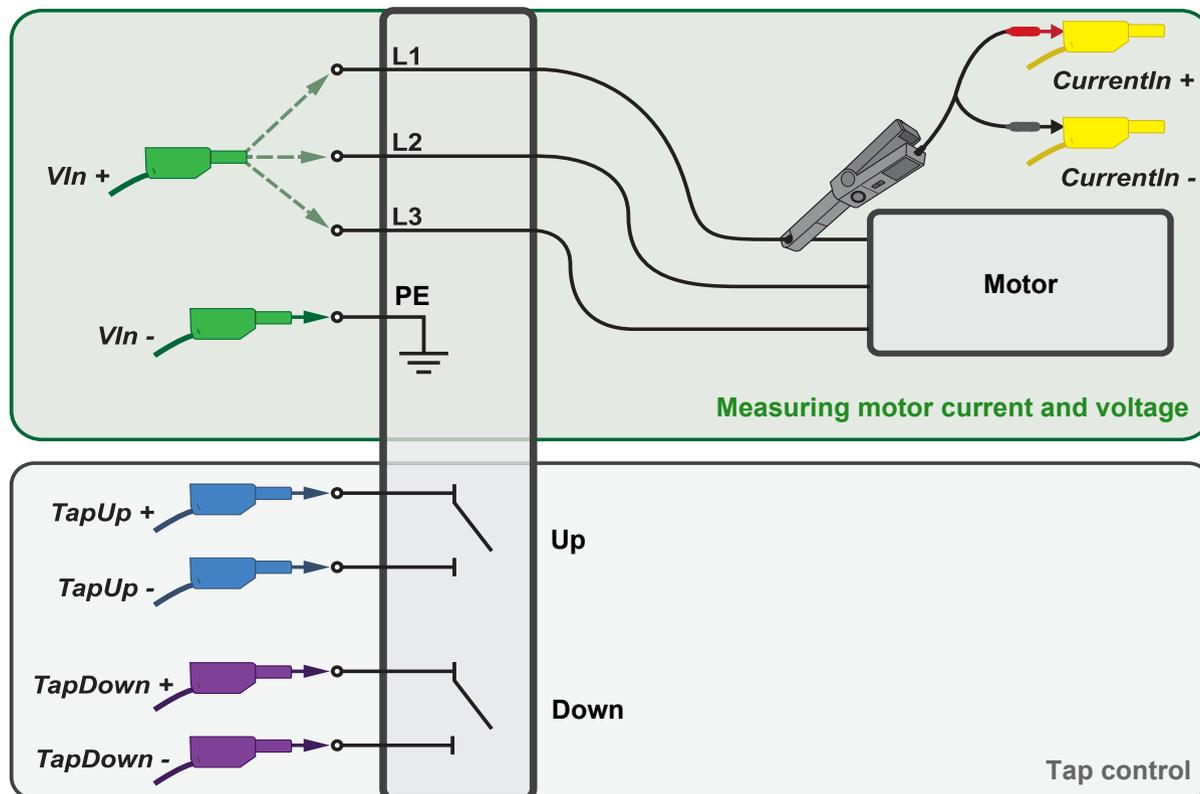

Figure 5-2: Connection scheme tap changer cable to tap changer
- III. Connect the tap changer cable to the appropriate terminals in the control cabinet of the transformer (see Figure 5-2 below).